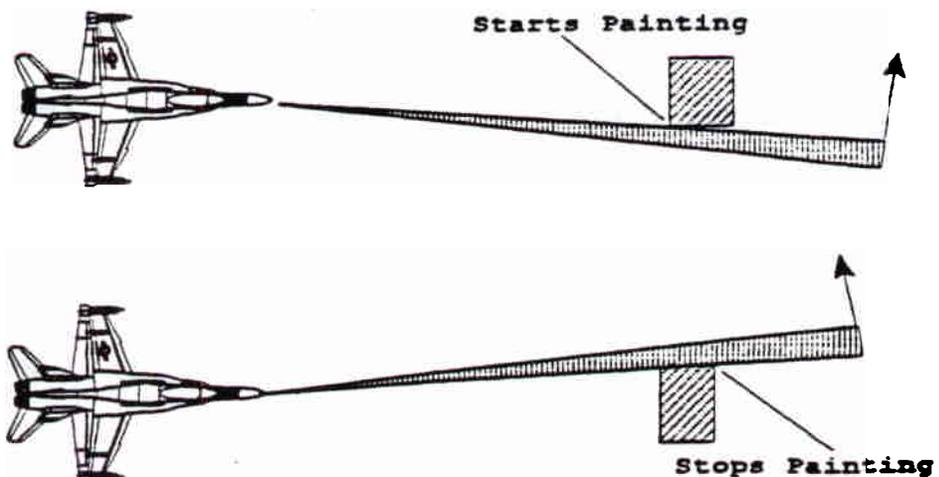

Figure 6
The radar beam width (BW) determines the azimuth resolution of the radar set. It also introduces an error into the scope presentation called "beam width error" (BWE). This BWE is produced as the radar beam scans the ground. The leading edge of the beam (see Figure 6) hits the object and the radar return is painted on the scope. It will continue to be painted until the trailing edge of the beam passes the target. This effectively adds the distance of one beam width to the painted echo by adding half the BW to each side. BWE, because it increases as range from an object increases, is considered the largest of all scope presentation errors.